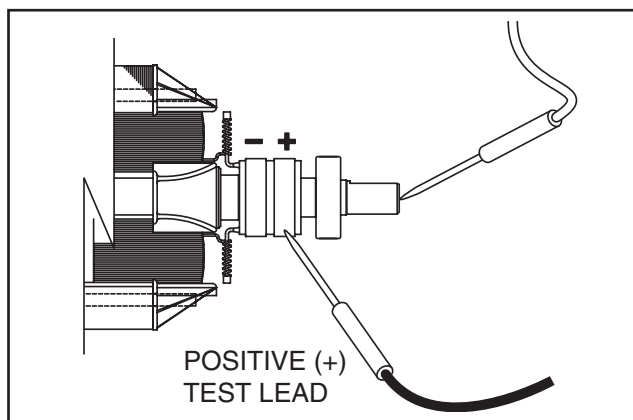

Figure 9. Testing Rotor Insulation
3. Disconnect C2 connector from the side of the control panel. The C2 connector is the closest to the back panel (see Figure 9, Section 6).